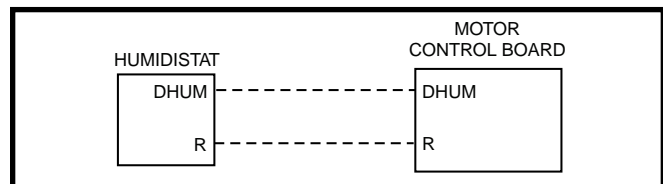

Figure 10. DHUM Wiring Configuration
1. If the room thermostat incorporates a humidity sensor and **DHUM** output, connect the **DHUM** on the thermostat to the **DHUM** terminal on the motor control board. See Figure 10.